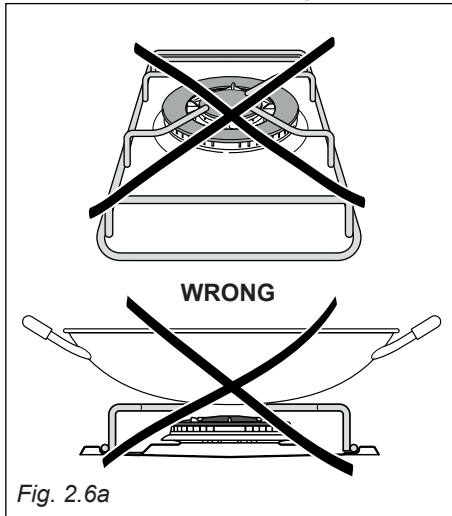

Fig. 2.6a
- To use the WOK you need to place the proper stand (if the the wok pan adapter is not supplied with the appliance, it is available as an accessory at extra cost) in order to avoid any faulty operation of the triple-ring burner (figs. 2.6a - 2.6b - 2.7a - 2.7b).